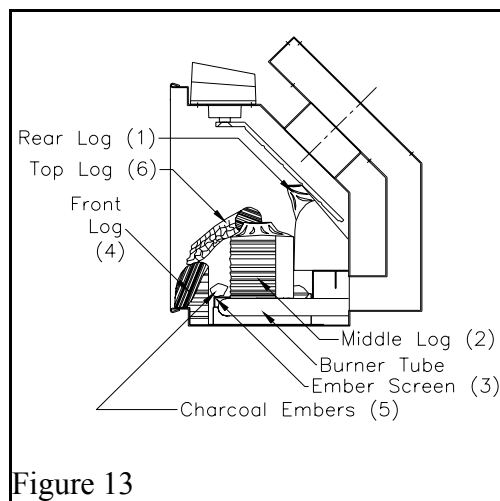

Figure 13
Open door using the 1/8 allen wrench. Loosen the screw that secures the door to the firebox by turning it counterclockwise. Pull the door open by grabbing the top edge of door frame. Take care not to chip the enamel or to damage the log set when removing the log set from the firebox. The log set assembly will be in four pieces along with the charcoal embers as shown in *Figure 13*. First, remove the Top Log(6) by pulling it up off the Middle Log(2) and out of the firebox. Next remove the charcoal embers. Then lift upwards and pull the Front Log(4) out of the firebox. Next remove the ember screen(3) from the burner tube. Grip the Middle Log(2) and lift upward, off the burner tube holder, and out of the firebox. The Rear Log(1) can then be removed from the firebox. Place the logs and charcoal embers in a safe area where they will not be damaged.